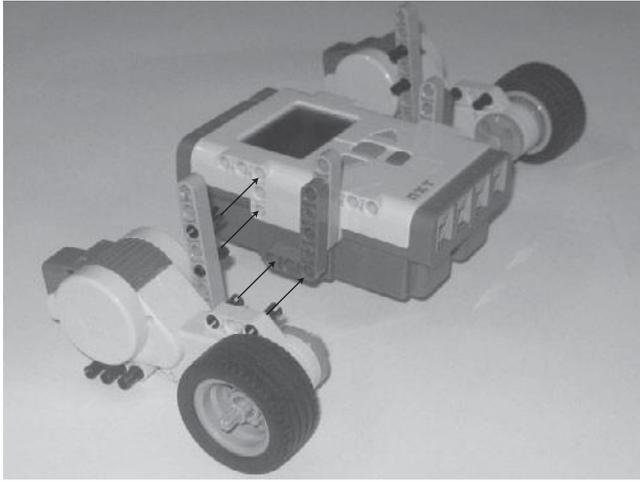

Figure 9.20
Step 1—Attach the left and right servo motor assemblies to the NXT Brick, as shown in Figure 9.20.